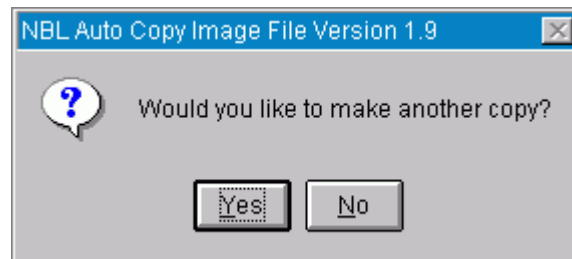

Figure 10
8. Create the remaining four diskettes, "NFA Firmware 2 of 5", "NFA Firmware 3 of 5", "NFA Firmware 4 of 5", "NFA Firmware 5 of 5" using the same process for generating the previous diskettes. After all six firmware upgrade diskettes have been created, the text box shown in Figure 10 will be displayed.